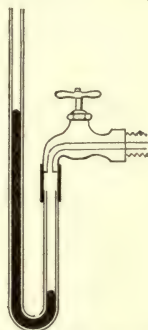

FIG. 67. — Mercury pressure gauge.
75. How we measure water pressure. Doubtless we have all found that water flows slowly from a faucet on an upper floor. This is because the water pressure is low there. To measure it, we use some form of **pressure gauge**, and for as small a pressure as this would be, an **open mercury manometer** would be the most accurate form of pressure gauge. It consists of a U-shaped tube filled with mercury, as shown in figure 67.